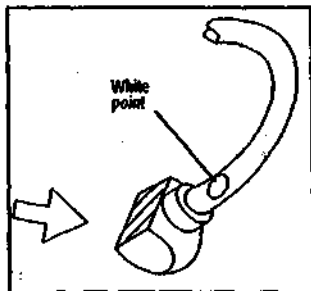

Fig. 2
- For full-face head helmets, to bend the stem of the microphone so that the capsule is completely housed inside the helmet with the identifying white point (see figure 2) directed towards the mouth.
- For open front helmets, to bend the stem of the microphone so that the sensitive part of the capsule is as close as possible to the mouth, with the aid of the identifying white point (see figure 2).